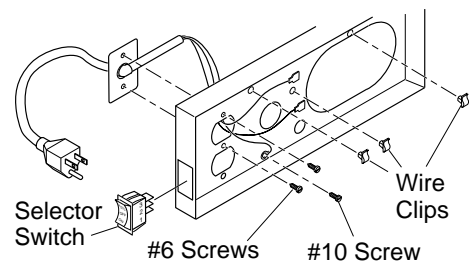

Figure 10 - Installing Power Cord, Mounting Plate, and Selector switch
5. Route terminals end of power cord through large hole near top of left floor support bracket. Make sure to pass the cord from the outside (left side) towards the center of firebox (see Figure 10).
towards rear of firebox (see Figure 10). Tighten screws firmly.
10. Mount selector switch to front flange of left floor support bracket. Align graphics on switch upright and push firmly to snap switch into rectangular hole. Push the selector switch to the off (middle) position (see Figure 10).
11. Install three plastic wire clips provided into floor support bracket (see Figure 10, page 8). Secure by pushing clips firmly into holes.
12. Attach green ground wire ring terminal to floor support bracket using #10 sheet metal grounding screw provided (see Figure 10, page 8). Tighten screw firmly.